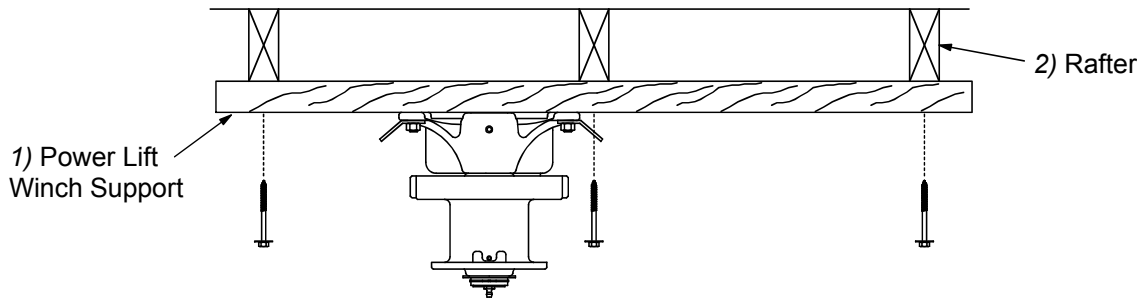

Figure 12. Mounting the Power Lift Winch and Support to the Rafters
2. Attach the Power Lift Winch Support (with the Power Winch secured) to the ceiling at the center of the feeder line. See **Figure 12**. The Power Lift Winch Support must be parallel to the feeder line and must span at least 3 rafters in a wood frame house and 2 rafters in a steel frame house.